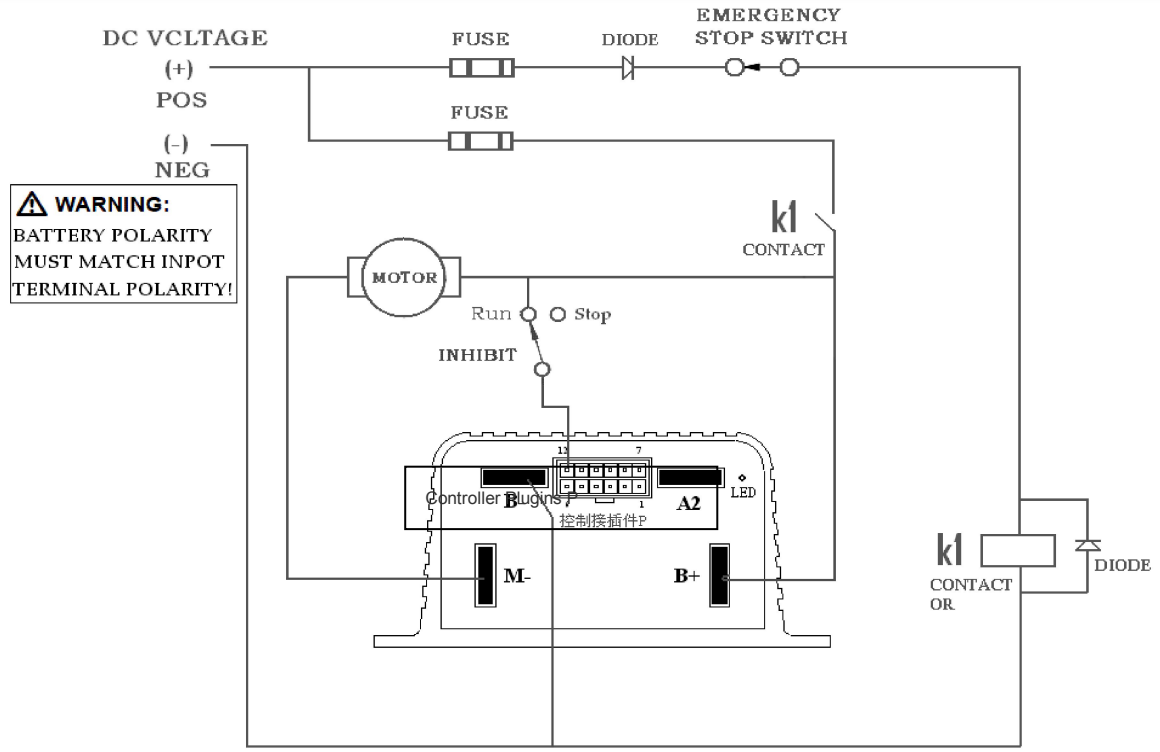

Figure 4
1. It must be equipped with a fast fuse and electromagnetic relay contactor between power input terminals of the controller and the power supply (storage battery) to realize emergency power cut in case of emergency. A fast fuse shall also be equipped between the control circuit input terminals of the controller and the power supply (storage battery) in case of short circuit of the control circuit. See Figure 4
3. Connect the DC motor to B+ and M- of the bus bar. See Figure 4 (Permanent magnet motor or separate excitation motor)